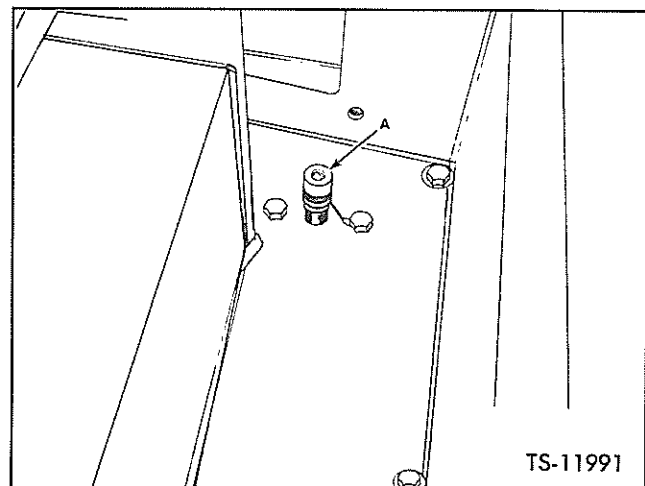

Fig. 23. Transmission Clutch Pressure
2. Install an accurate gauge, 0 to 400 psi (0 to 28 kg/cm2) capacity in the quick disconnect fitting in rear of cockpit as shown in Figure 23 Item A.